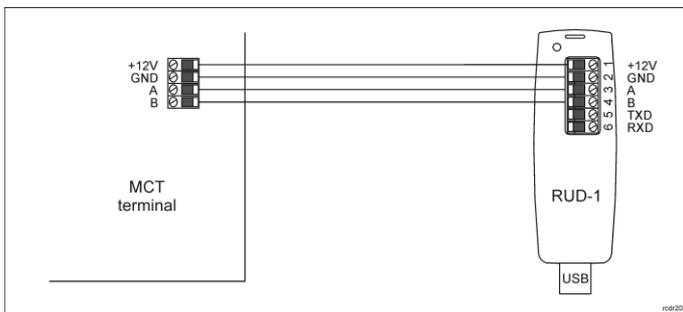

Fig. 1 Connection of MCT device to RUD-1 interface (configuration)
1. Connect the device to RUD-1 interface (fig. 1) and connect the RUD-1 to computer's USB port.